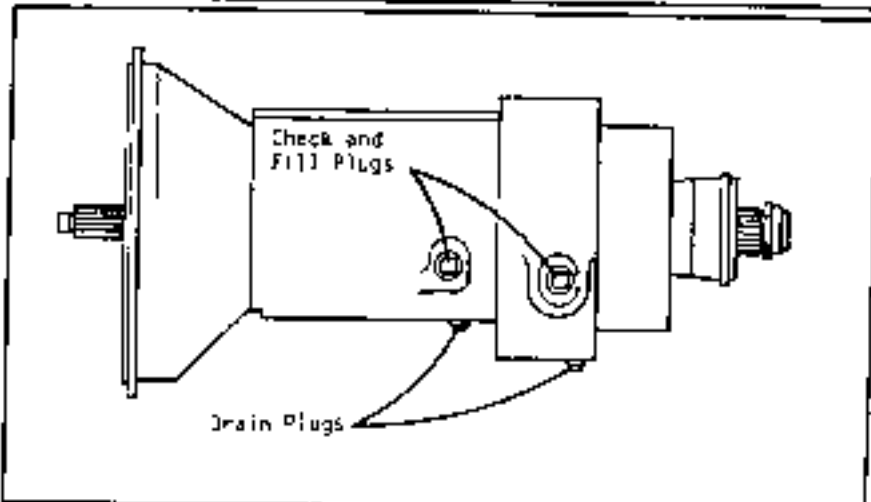

Fig. 2-9
- Clean area around both fill plugs to prevent entry of foreign material. Refer to Fig. 2-9.